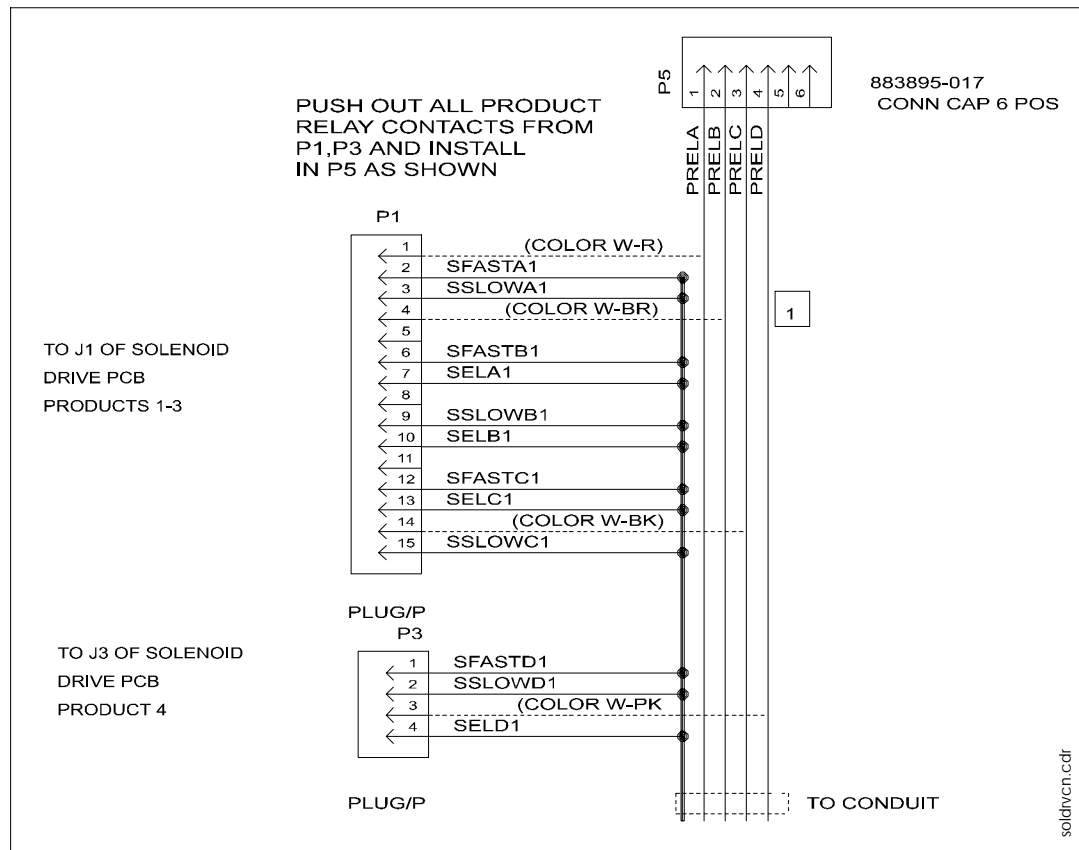

Figure 2-14 Modifying Product Relay Contacts
7. If needed, connect 6-pin end of cable PN 886016-001 to 6-pin connector with subpump controller wiring (see Figure 2-14). Otherwise, leave unconnected at this time.
3. With a pin pusher, push out all product relay contacts from the connectors removed in steps 1 and 2, and install in connector P5 (PN 883895-017) provided in the kit. Refer to Figure 2-14.